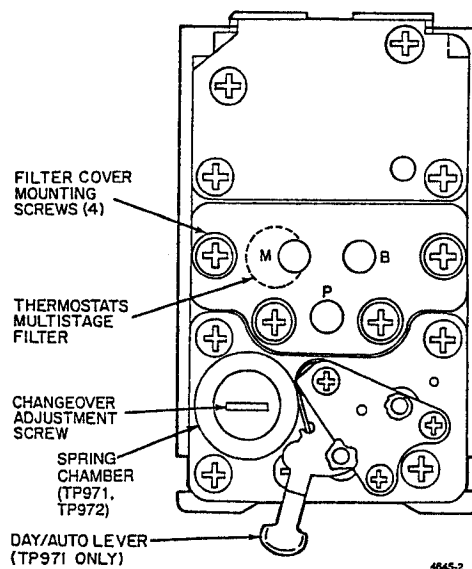

Fig. 22. TP970 Series Thermostat—Back View without Backplate.
On some systems the lower main air pressure is 14 or 15 psi (97 or 103 kPa). On these systems turn the changeover adjustment screw (Fig. 22) one-half turn clockwise for each 1 psi (7 kPa) over 13 psi (90 kPa).
1. Remove the changeover adjustment screw (Fig. 22).